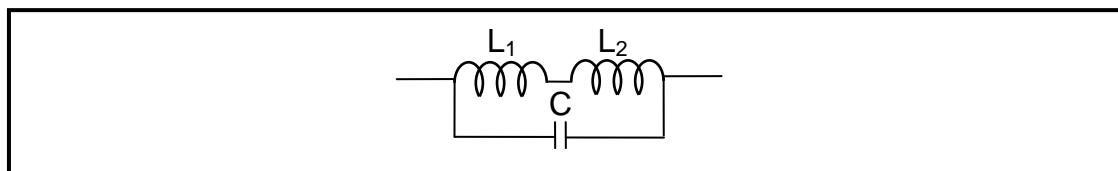

FIGURE 7.4: TANK CIRCUIT OF A HARTLEY OSCILLATOR
7.8 Calculate the resonant frequency of a Hartley oscillator consisting of two coils of 40 mH each and a capacitor of 0,65 μF . The tank circuit of the Hartley oscillator is shown in FIGURE 7.4.